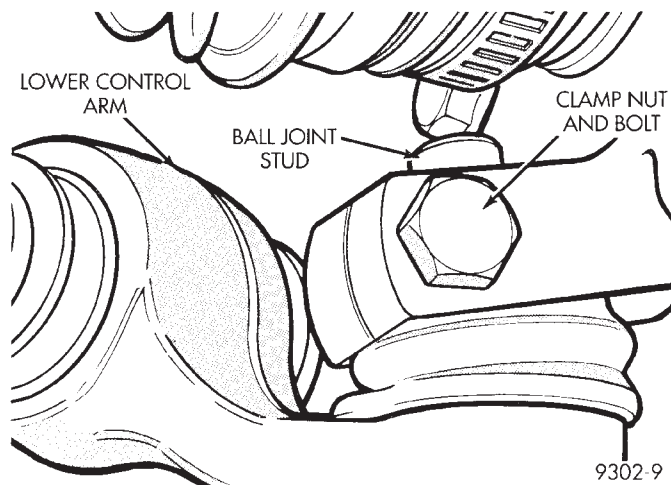

Fig. 13 Control Arm To Steering Knuckle Attachment
(1) Install steering knuckle on ball joint stud. Install steering knuckle to lower ball joint stud, clamp bolt and nut into steering knuckle (Fig. 13). Torque clamp bolt to 55 N•m (40 ft. lbs.).
(2) Position steering knuckle neck into strut assembly.